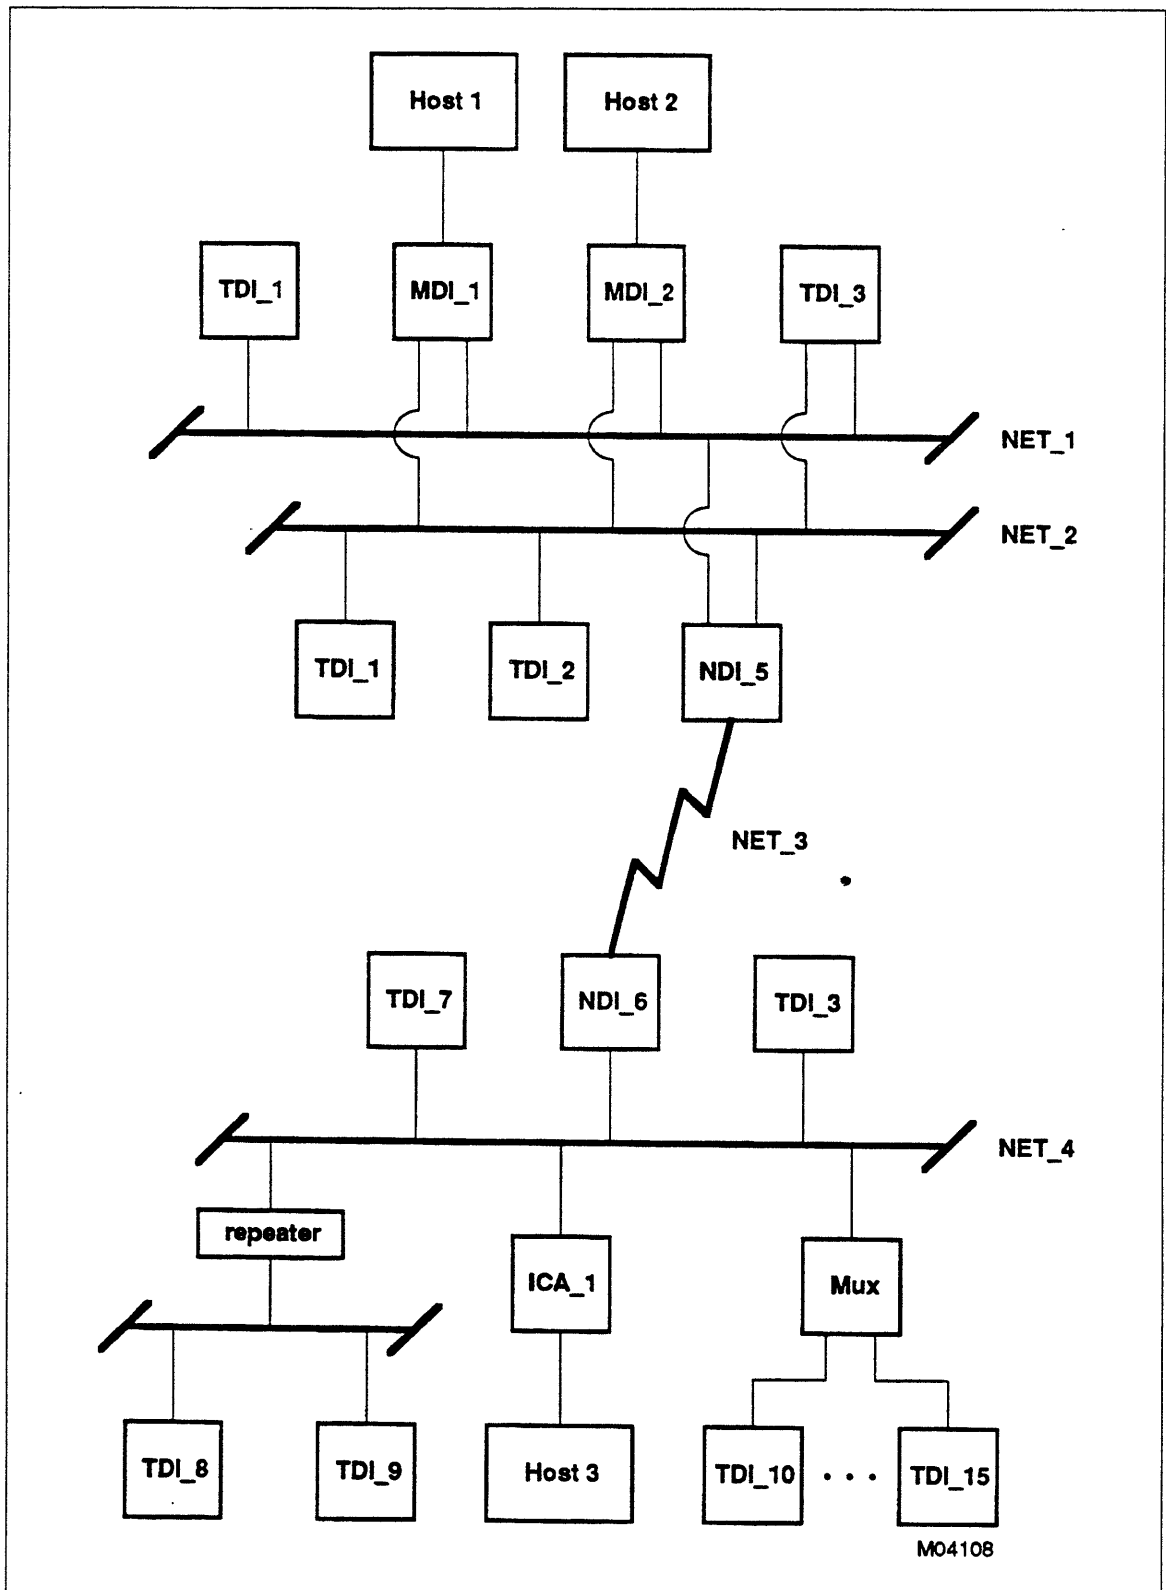

Figure 5-17. Network Troubleshooting Example 4
Assume that users on TDI_8 cannot connect to host 3 (figure 5-17).
1. Obtain a map of the network (figure 5-17) from the network administrator and determine what network elements are involved.	TDT_8 and TDI_9 connect to the network via a repeater (figure 5-17).